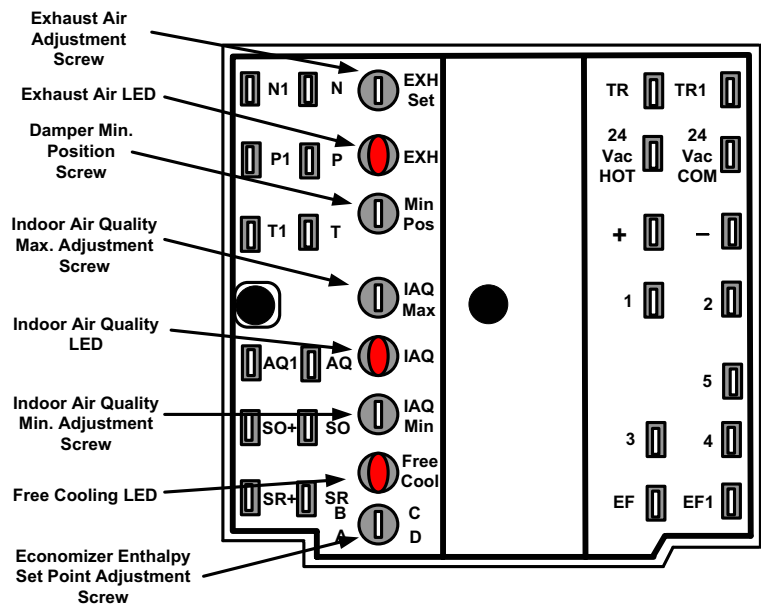

Figure 17: Honeywell Economizer Control W7212
- For a single enthalpy operation carefully turn the set point adjusting screw (found on the damper control module) to the "A", "B", "C" or "D" setting corresponding to the lettered curve of the Enthalpy Set Point Adjustment Figure 17.